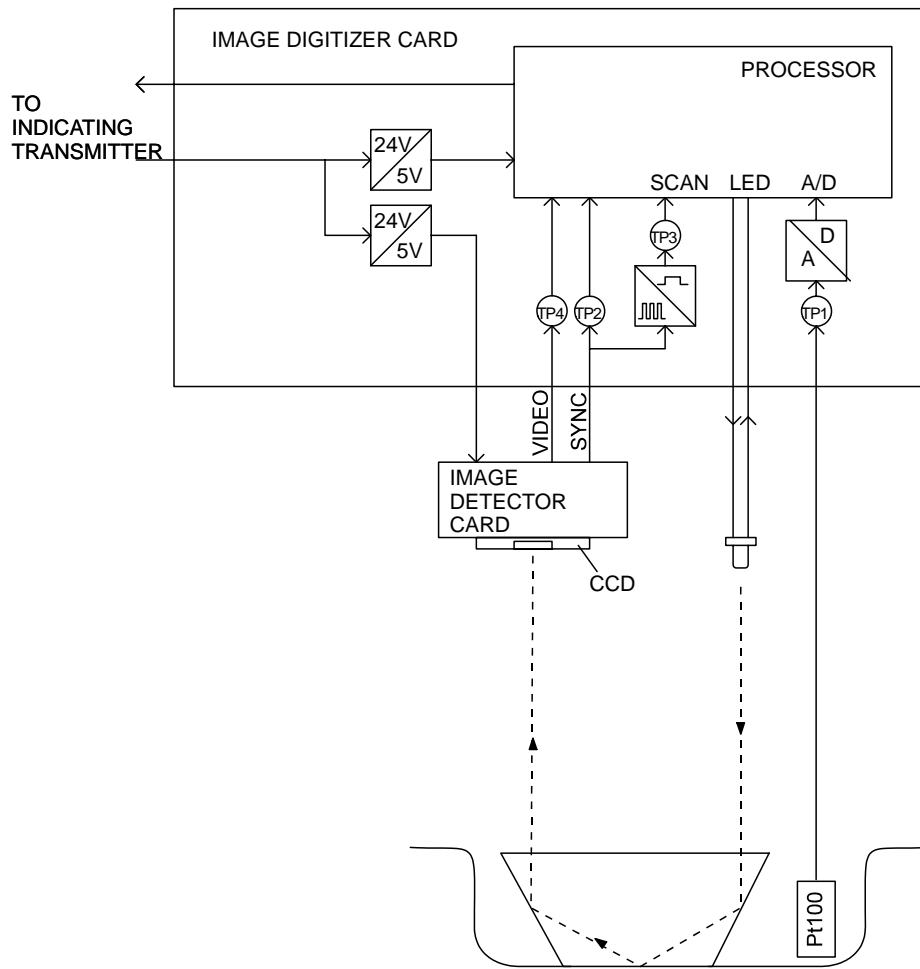
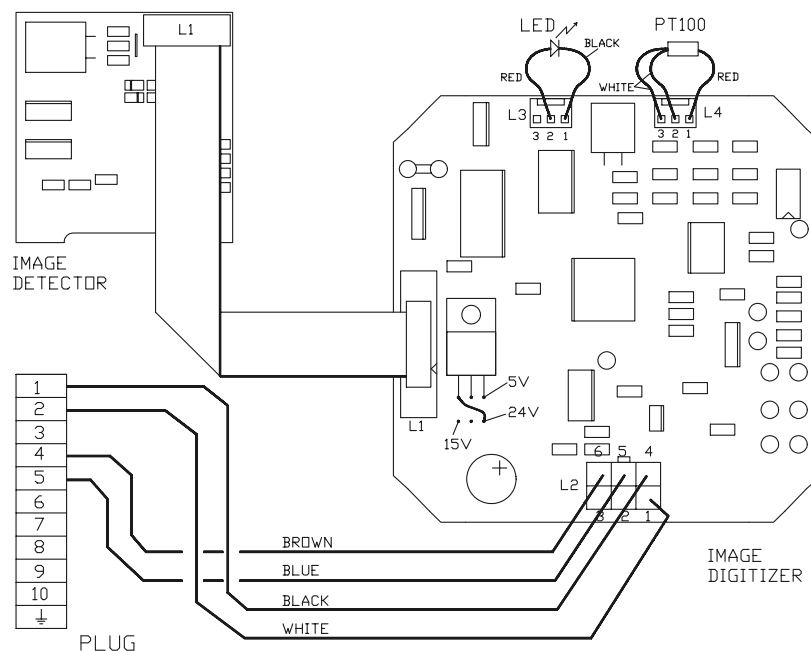
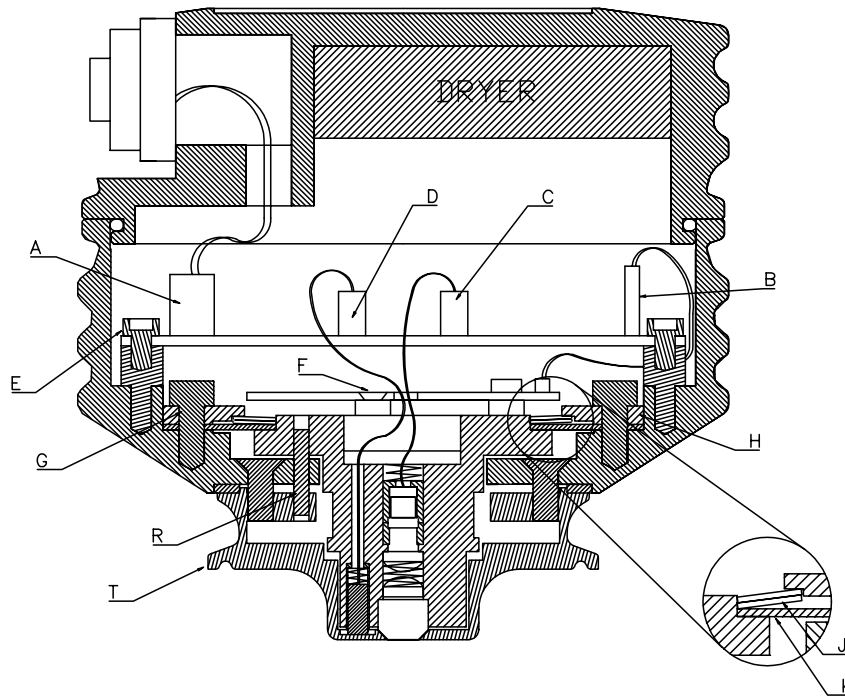

Figure 6.50 Sensor information and power flow.
Figure 6.52 Sensor electronics test points.
Figure 6.70. Sensor in disassembly position.
Study Figure 6.50 to get a basic understanding of how the Sensor works.
The video signal can also be measured directly by an oscilloscope. Use an oscilloscope with a 10 MOhm probe (10x) in AC mode. Connect the signal ground to TP 0V, and the channel to TP4, see Figures 6.52 and 6.50. The duration of one image is 3 ms. The voltage amplitude is 2.5 - 3.7 V corresponding to Indicating Transmitter display 0 - 255.
- Scans:** Number of optical images during one calculation cycle, typically 1 or 2. The scan pulses (with 5 V amplitude) can be measured at TP 3 (Figure 6.50).
The fault may be in the single path from Image digitizer to the interconnecting cable to the Processor card, see Figure 6.22. If the signal path is OK, then the Image digitizer does not work. Check the 24 V and the 5 V supply to Processor card, Figure 6.52. If the supply is OK, change the Image digitizer card.
The scan pulses (Figure 6.50) are missing at TP 3 (Figure 6.52). Check the 15 V supply to the Image detector card, Figure 6.52. If the 15 V supply is OK, but the sync signal TP2 is absent, then change the Image detector card. The sync signal is similar to the video signal but the pulse amplitude is constant. Check also the main power selection switch position, see Section 3.6.
The temperature is measured by a Pt100 platinum resistance element, see Figure 6.52. The connector is marked by D in Figure 6.70. The Sensor raw data (Section 6.5) gives the A/D value, which refers to the temperature A/D converter: 0 - 1023 corresponds to 1.8 - 3.0 V corresponding to -75 °C .. 300 °C.
2. Fix the sensor by the sensor head (T) in a vertical position, nameplate upwards, Figure 6.70. K-Patents Service stand PR-1002 can be used.
9. Fit the analyzer module into the sensor head. Note the alignment pin (R), Figure 6.70.
10. Mount the thermal conductor (K) with the holes aligned to the screw holes. Mount the disk spring (J). Note the position of the disk spring on the detail (J), Figure 6.70.
12. Mount the Image detector card with the screws (F), Figure 6.70. First tighten the two guiding screws with conical heads, then the third screw. Lock the screws with e.g. nail polish.
13. Mount the Image digitizer card with the screws (E). Connect (B), (C) and (D).
14. Check the dryer, Figure 6.70: Remove the dryer (held by two screws) and inspect the window at the back. It should be blue. If it is pink, regenerate according to the last paragraph in Section 6.1, before mounting.